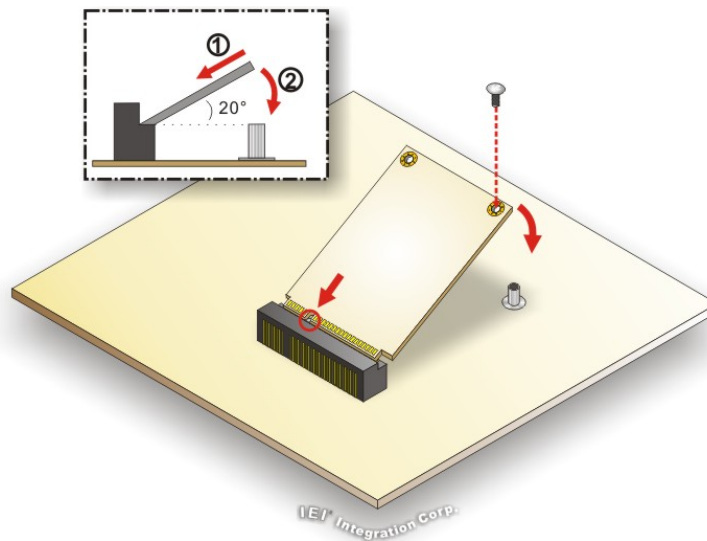

Figure 3-7: mSATA Module Installation
- Step 4:** Secure the mSATA module with the retention screw. Push the other end of the mSATA module down and secure the module with the previously removed retention screw (**Figure 3-7**).